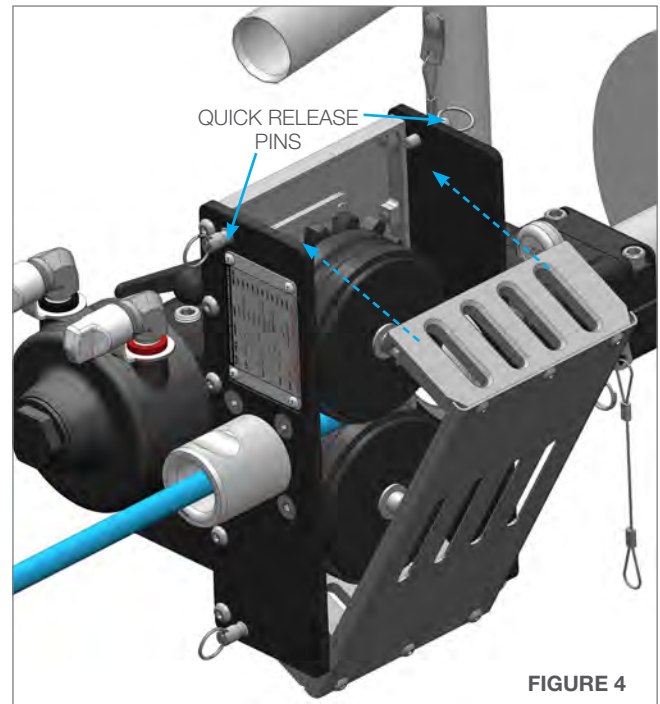

FIGURE 4
- Loosen the adjustable handle on the Hinge Clamp. Slide the Snout Tube into the Quarter Plate Flange Mount. Tighten the adjustable handle to secure. **(Figure 4)**
4. Loosen the adjustable handle on the Hinge Clamp. Slide the Snout Tube into the 4"-8" Plate Flange Mount. Tighten the adjustable handle to secure. The 4"-8" Plate Flange Mount option is now ready to be loaded with the high pressure hose. **(Figure 4)** Go to page 17, "Hose and Collet Installation" for instructions.
- To Install the BOP 012 OPTIONAL Splash Plate, loosen the two bolts on the collar, slide it onto the BOP 081-6 Snout Tube and hand tighten the collar bolts when in position. **(Figure 4)**
4. Push the back cover back into the closed position and secure the two Quick Release Pins on the top of the PRODRIVE®. **(Figure 4)**
4. Pull the Dust Caps off the Pneumatic Air Fittings. Connect the Pneumatic Supply Lines from the CB-ABX-PRO-100-X Control Box to the PRODRIVE®. Pay close attention to the color coded tabs on the air fittings of the Air Motor and the Control Box. Connect the red hose to the red banded air fittings and the black hose to the black banded air fittings. **(Figure 4 & 5)**
4. Remove the two socket head cap screws, Roller Washers, Hub Outer Plates and Rollers. **(Figure 4)**